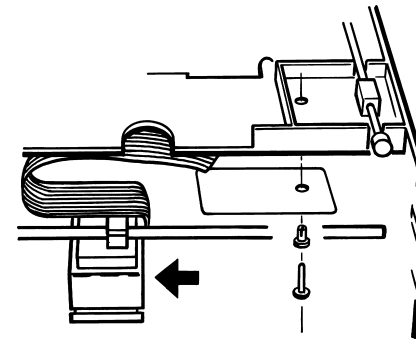

Figure 5 Flexi-protection plate (Multipoint recorders only)
6. For multipoint recorders only, slide the printhead to the left and remove the plastic rivet securing the printhead flexi-cable protection plate (Figure 5)